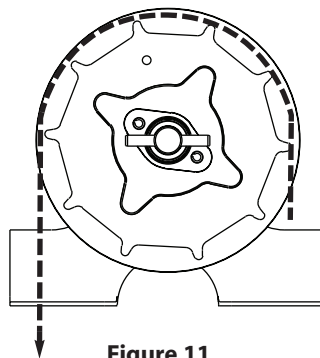

Figure 11
- 1) Route the hand chain through the chain guide, around the pocket wheel and back through the chain guide. **Fig.11.**